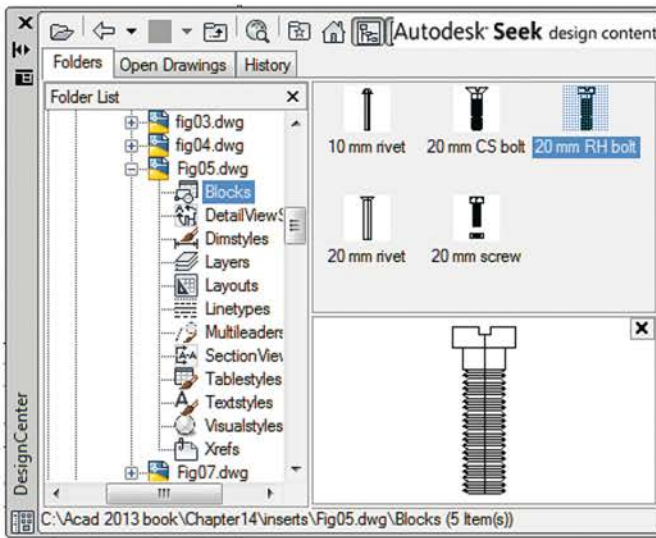

Fig. 11.6 Second example – a library of fastenings
SECOND EXAMPLE – A LIBRARY OF FASTENINGS (FIG. 11.6)
2. Open the **DesignCenter**, followed by a *click* on **Fig05.dwg**. Then *click* again on **Blocks** in the content list of **Fig05.dwg**. The five 3D models of fastenings appear as icons in the right-hand side of the **DesignCenter** (Fig. 11.6).